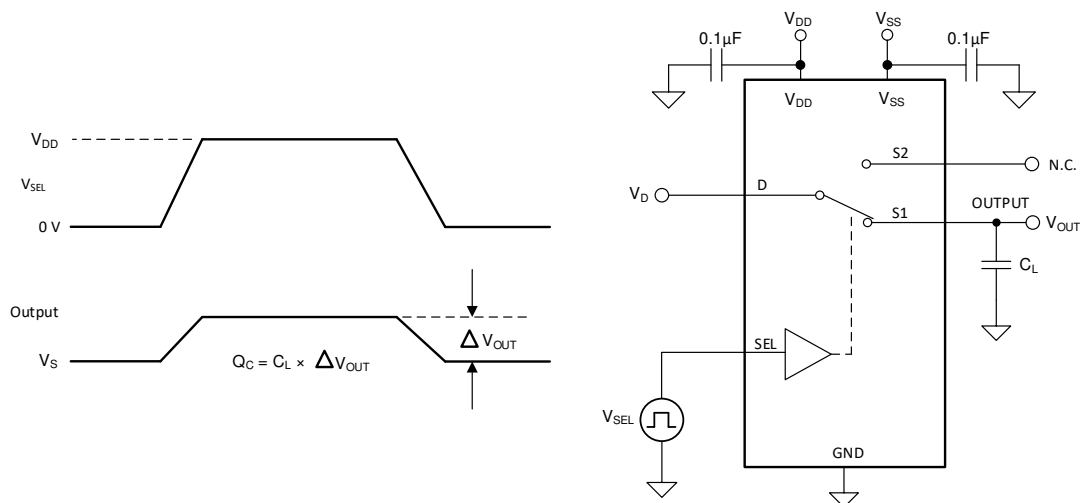

Figure 21. Charge-Injection Measurement Setup
The TMUX1119 has a transmission-gate topology. Any mismatch in capacitance between the NMOS and PMOS transistors results in a charge injected into the drain or source during the falling or rising edge of the gate signal. The amount of charge injected into the source or drain of the device is known as charge injection, and is denoted by the symbol Q_C . Figure 21 shows the setup used to measure charge injection from Drain (D) to Source (Sx).